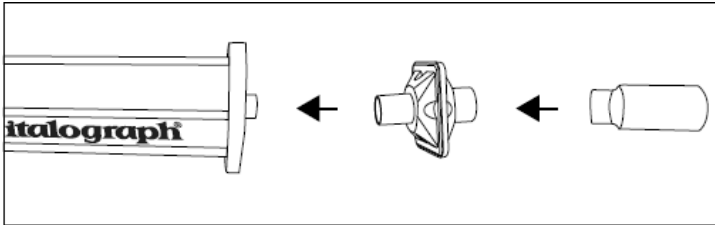

Figure 9
1. Attach flowhead to the syringe with a BVF fitted as per figure 9.